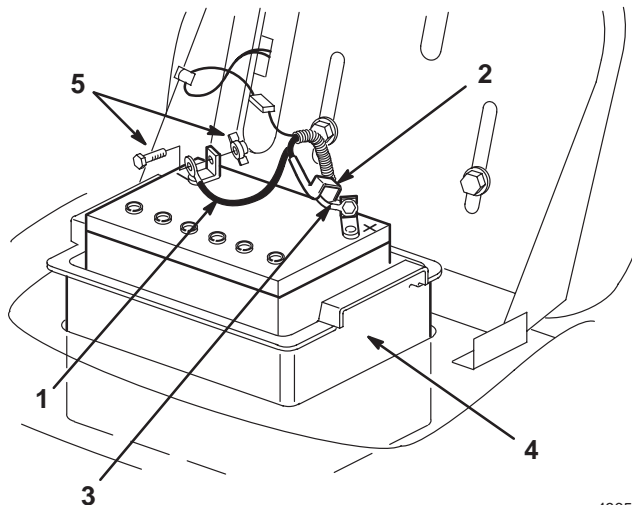

Figure 15
- Disconnect the negative (black) ground cable from the battery post (Fig. 15).
- Disconnect the positive (red) cable from the battery post (Fig. 15).
- Remove the battery box and battery from the chassis (Fig. 15).
1. Put the battery into the battery box and install it into the chassis (Fig. 15).
2. Using the bolt and the wing nut, connect the positive (red) cable to the positive (+) battery post (Fig. 15).
4. Using the bolt and wing nut, connect the negative (black) cable to the negative (–) battery post (Fig. 15).